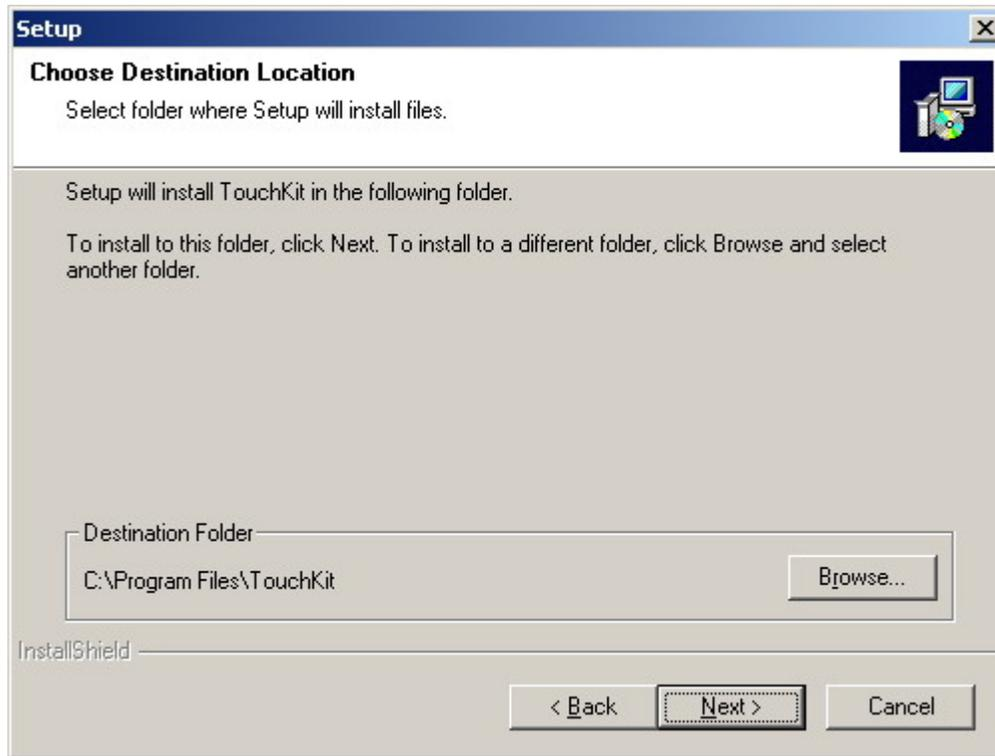

Figure C-7: Controller Installation Directory
Step 10: The user is then prompted to select a file directory in which the touch kit controller is installed (**Figure C-7**). The default directory is "**C:\Program Files\TouchKit**." If a different folder must be used, select browse and then select the folder. Once the folder is selected, click Next to continue.